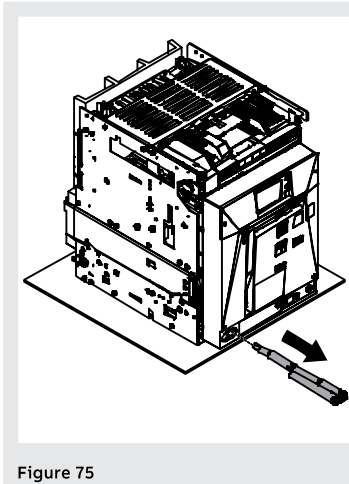

Figure 75
7. Extract the disconnection crank from its housing See Figure 75.